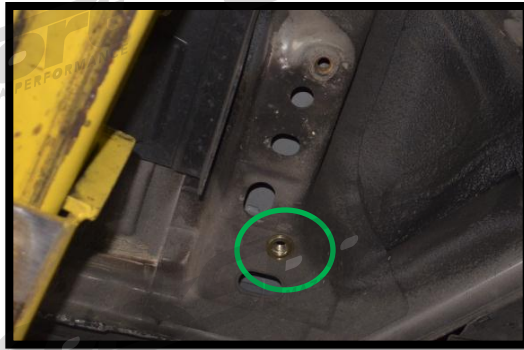

Figure 2e
- d) **Install a RIV nut in the frame** for brace bar #3 (shown in Figure 2e) and then install brace bar #3 on the drivers side using the other supplied 25mm long 8mm bolt.
- d) For the brace bar #3 you will need to also install a RIV nut in the frame (**green circle** in **Figure 2e**) and then install the brace on the drivers side. Remember to only start the hardware again.